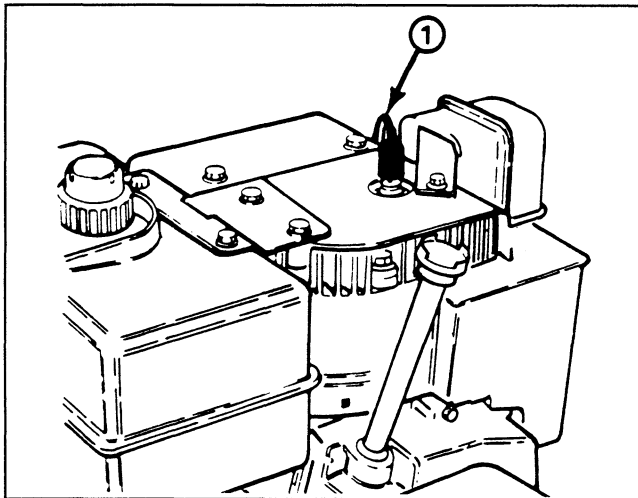

Figure 38
2. Pull wire off spark plug (Fig. 38) and remove plug from cylinder head.